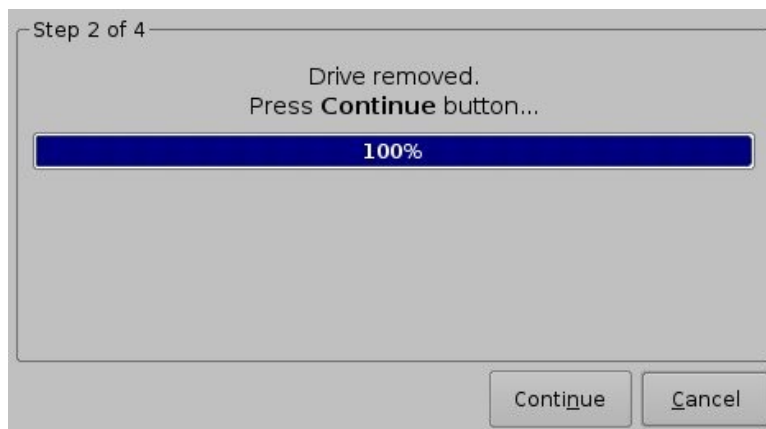

Figure 31: Drive Replacement – End of Step 2/4
- At the end of the unregistering process, the user will be prompted to continue (Figure 31). Click the Continue button to go to the next step.